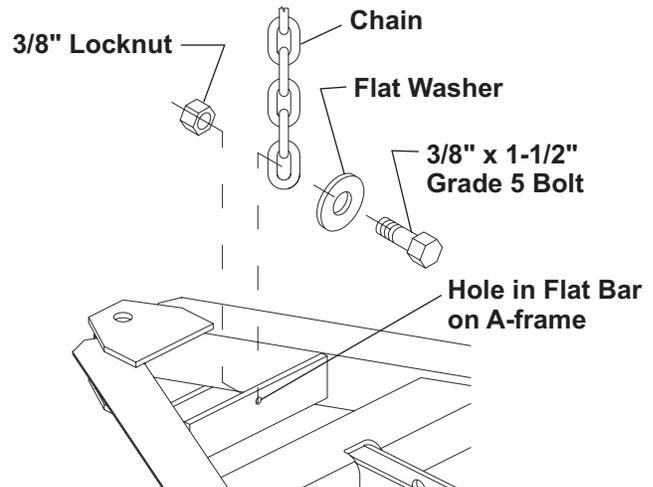

Figure 2
3. Use a 3/8" x 1-1/2" grade 5 bolt with 3/8" SAE flat washer to attach end link of chain to hole in flat bar on A-frame and secure with a locknut. Attach chain to side of flat bar towards wide end of A-frame. (See Figure 2.)